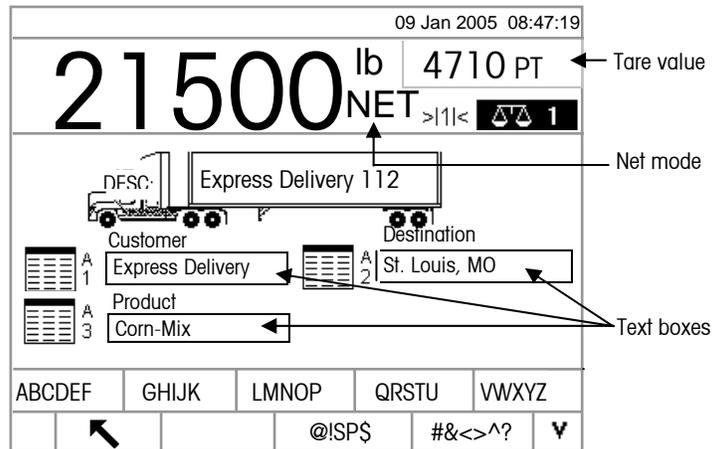

Figure 2-13: A1–A3 Tables Data Entry Screen
2. Use the alpha keys and the numeric keypad to enter the Short A/N (alpha/numeric) ID of the desired database information in the text boxes that correspond to the A1, A2, A3, and A4 (if enabled) tables (see Figure 2-13).